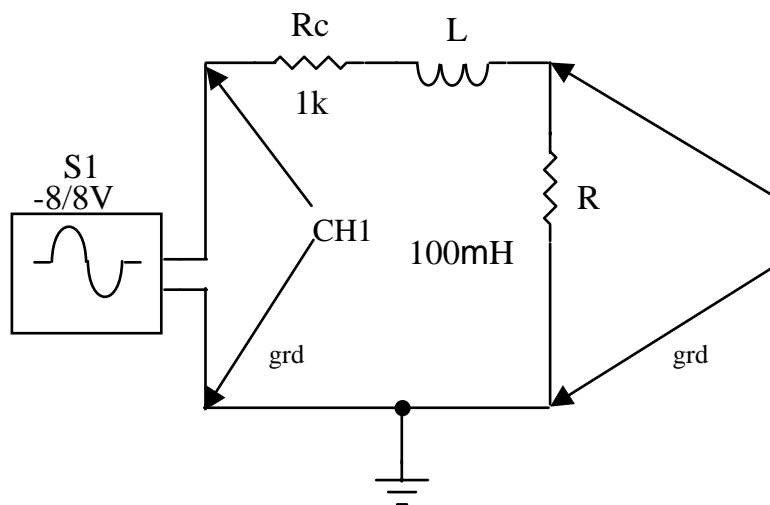

Figure 4. RL Series Circuit Test Setup 2.
- 8.) Construct the circuit shown in Figure 4. This can be done by reversing the ground and positive leads of the signal generator and the scope. The scope will now measure the voltage across the resistor with respect to ground. Since the resistor introduces no phase shift between the voltage and current in the circuit, this voltage wave will have the same phase relationship to the source voltage as the circuit current. The phase shift can be measured using the scope by determining the time difference between the source voltage and the resistor voltage. Use the positive going zero crossings of the sine waves as the reference point. Compute the phase shift by using the formula shown in step 3.